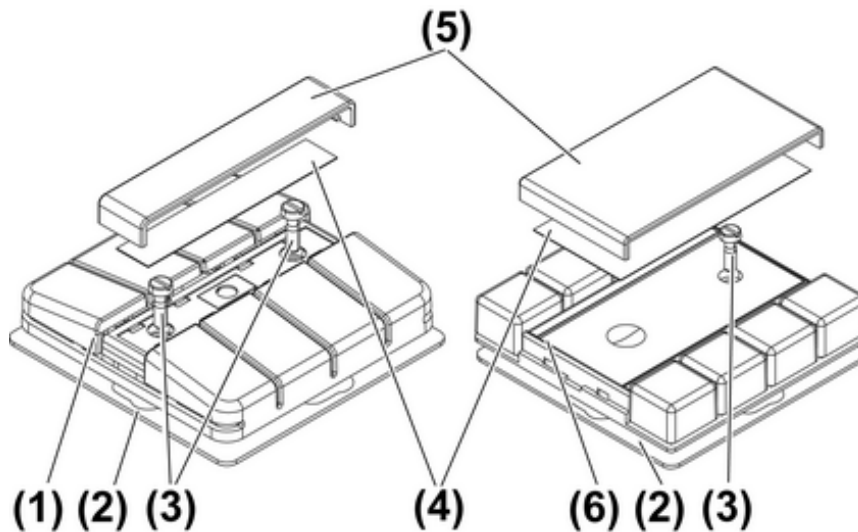

Figure 1
- Carefully remove inscription panel cover (5) and inscription panel (4) from the wall transmitter (figure 1).
- Slacken fastening screws (3).
- Remove wall transmitter (1) from the base plate (2).